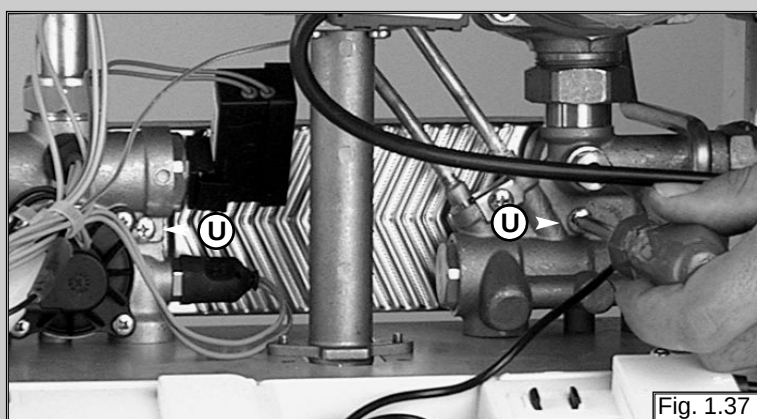

Fig. 1.37
1. Remove the screw "U" (see fig. 1.37);